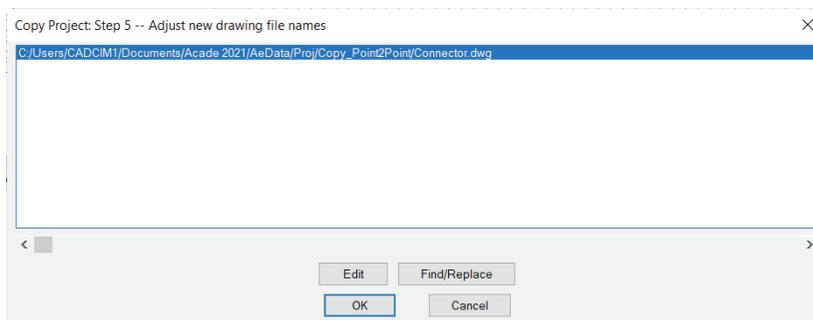

Figure 2-75 The Copy Project: Step 5 -- Adjust new drawing file names dialog box
6. In this dialog box, the edit box located at the top displays default path for the project drawings. Choose **OK** from this dialog box; the **Copy Project: Step 5 -- Adjust new drawing file names** dialog box is displayed, as shown in Figure 2-75.